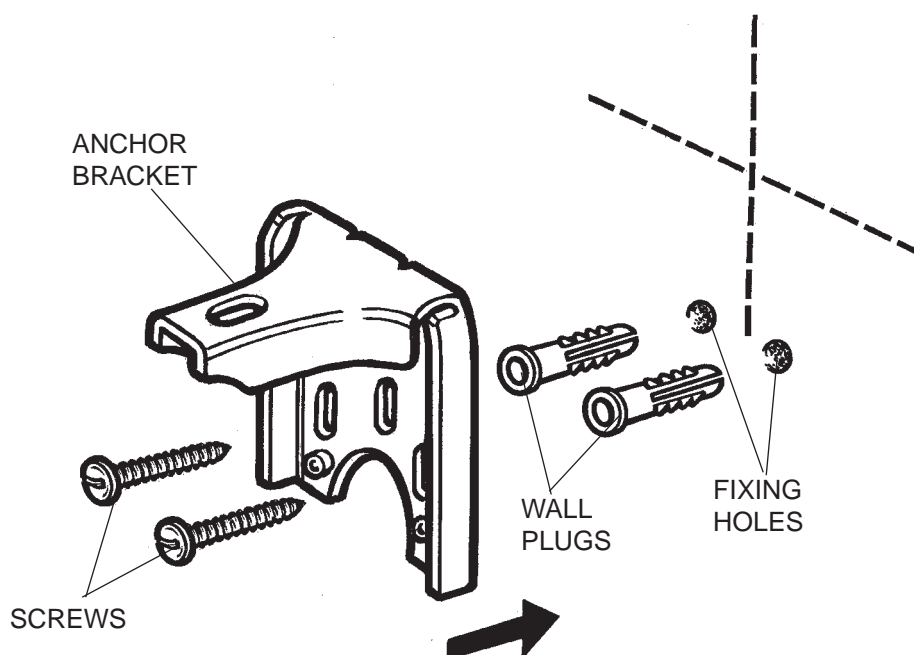

Figure 2 - fixing an anchor bracket
In order to eliminate the risk of the cooker falling forward, two chains have been installed at the rear of the cooker. Before use, these will need to be fastened securely to the wall behind the appliance with the anchor brackets supplied. (Figure 2):
1. Decide on a suitable wall location for fitting the anchor brackets directly behind each cooker safety chain (Figure 2).
2. Hold the chain anchor up to the wall where it will be required, and mark the fixing holes. (Figure 2).